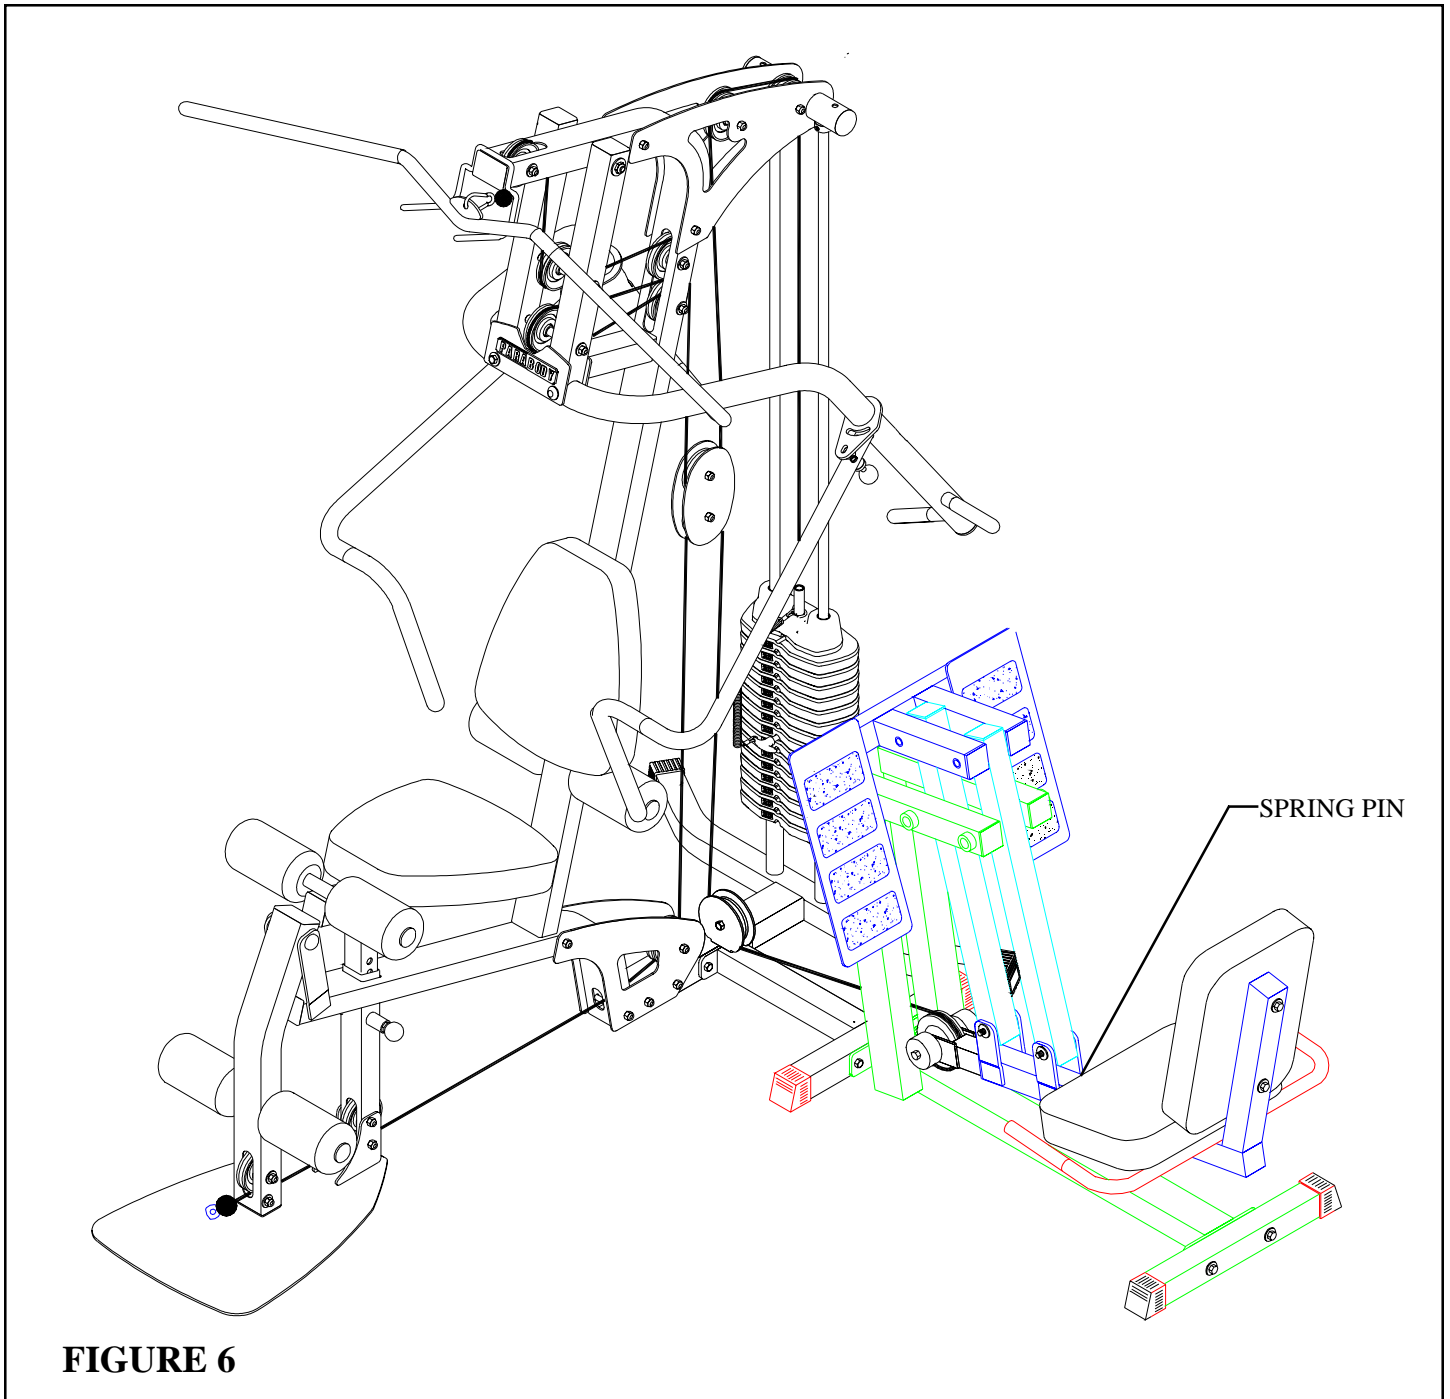

**FIGURE 5**
- **SECURELY** attach the 100 LEG PRESS to the FRONT LEG (1) using two 3/8" X 3" BOLTS (9), four 3/8" WASHERS (6), and two 3/8" LOCK NUTS (7). See FIGURE 5.
- Route LEG CABLE (2) around the 3-1/2" PULLEY on the LEG PRESS as shown in FIGURE 5. (NOTE: **Pulley may need to be temporarily removed.**)
- Attach the end of the LEG CABLE (2) to the QUICK DISCONNECT LINK (5). See FIGURE 5.
- **SECURELY** tighten the QUICK DISCONNECT (5) to the tab on the FRONT LEG (1) as shown in FIGURE 5.